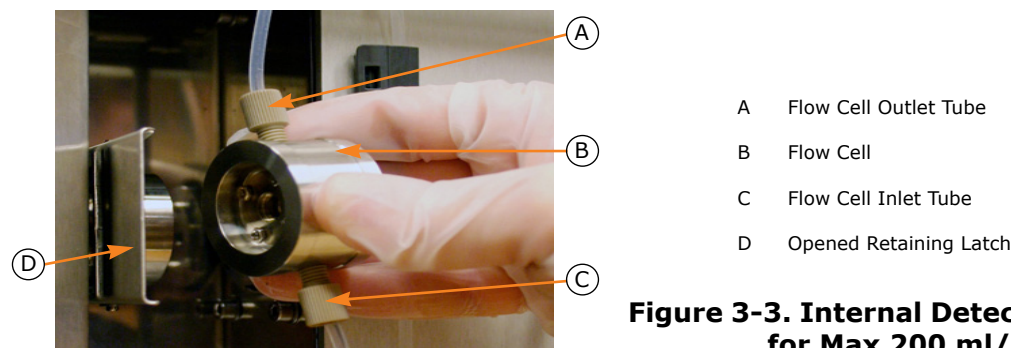

Figure 3-3. Internal Detector Flow Cell for Max 200 ml/min
2. Connect the internal and external flow cells in series or by using a splitter, or move the internal detector's inlet and outlet tubing (see Figure 3-3) to the external flow cell. Ensure that you use as short extra tubing as possible. For more information, please refer to the manufacturer of the external detector. **Tip!** If the flow cells are connected in series and the pressure exceeds 10 bar (i.e. the run is aborted), retry using a splitter.